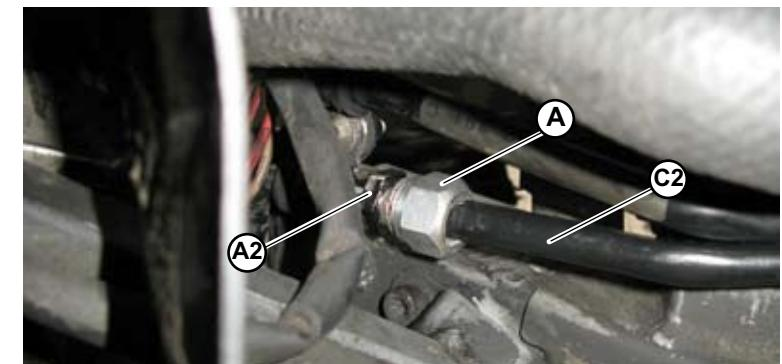

Fig.15
1. Unscrew the nut (A-Fig.15) to disconnect the A2 front return pipe connection from the C2 power steering circuit central return pipe.